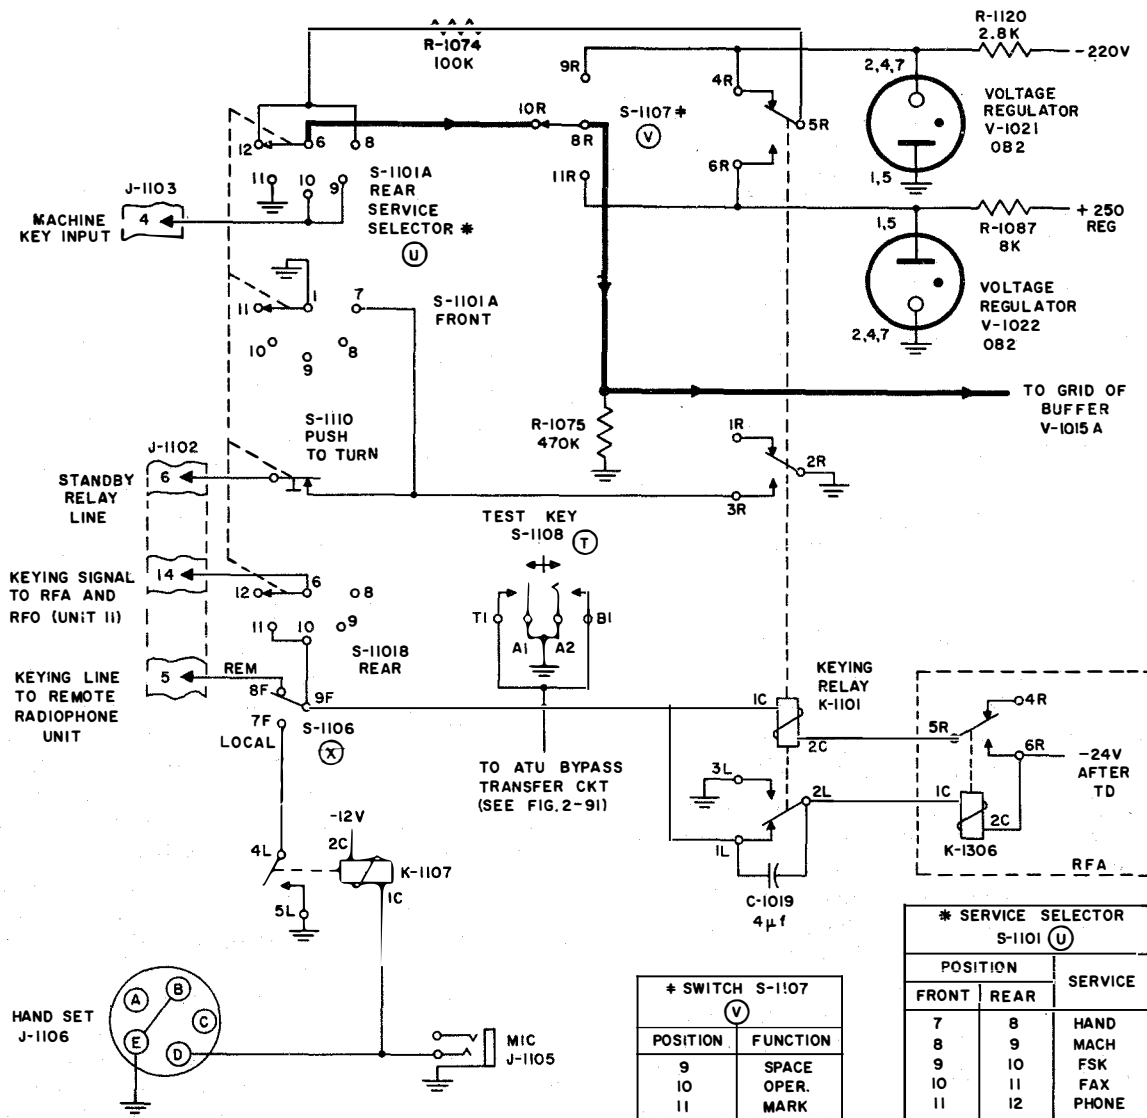

Figure 2-80. Keying Input Circuit, Simplified Schematic
(1) KEYING INPUT CIRCUIT.—SERVICE SELECTOR switch (U) S-1101A rear (figure 2-80) selects the keying input to the keying circuit. In hand-key and phone operation, the keying signals are introduced through the action of the keying relay, K-1101. With the LOCAL-REM switch (X) S-1106 in the REM position, the keying line from a remote radiophone unit is connected to the keying relay through contacts 8F and 9F of S-1106. When a hand key is used, ground